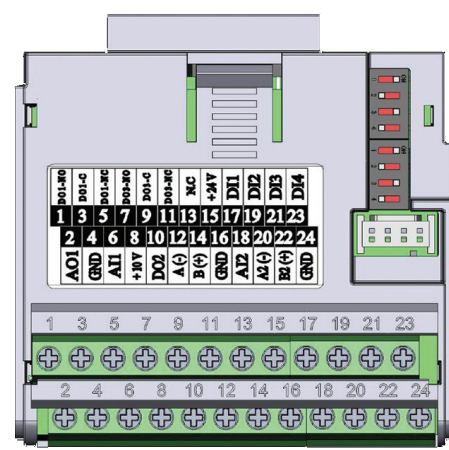

Figure 17.4: Plug-in module CFW500-CRS485
The CFW500-CRS485 plug-in module has Serial (1) interface through RS485 port at terminals 12(A-) and 14(B+), as well as the Serial (2) interface through another RS485 port at terminals 20(A2+) and 22(B2+), see Figure 17.4 on page 17-1.